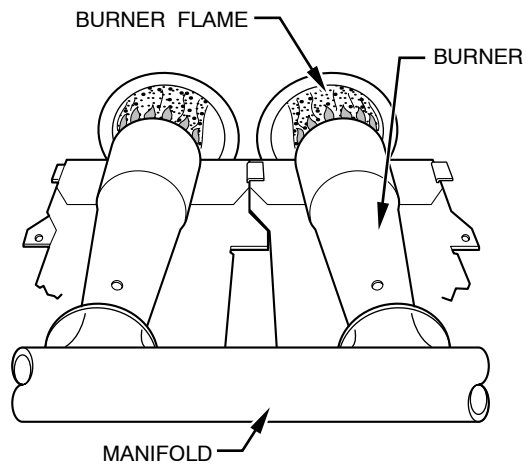

Fig. 67 - Burner Flame
- d. Main burner flame should be clear blue, almost transparent. (see Fig. 67.)
- e. Main burner flame should be clear blue, almost transparent. (see Fig. 67.)